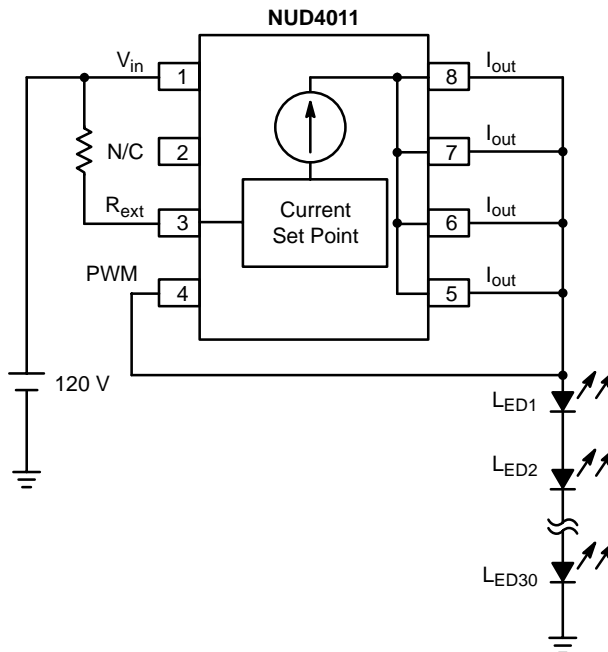

Figure 5. 120 V Application (Series LED's Array)
3. Device's pin 4 connected to the LEDs array (as shown in Figure 5).
- a. Per example in Figure 5, $V_{in} = 120 \text{ Vdc}$
4. Define V_{LED} @ I_{LED} per LED supplier's data sheet: per example in Figure 5,
- a. Per example in Figure 5, $V_{in} = 120 \text{ Vac}$